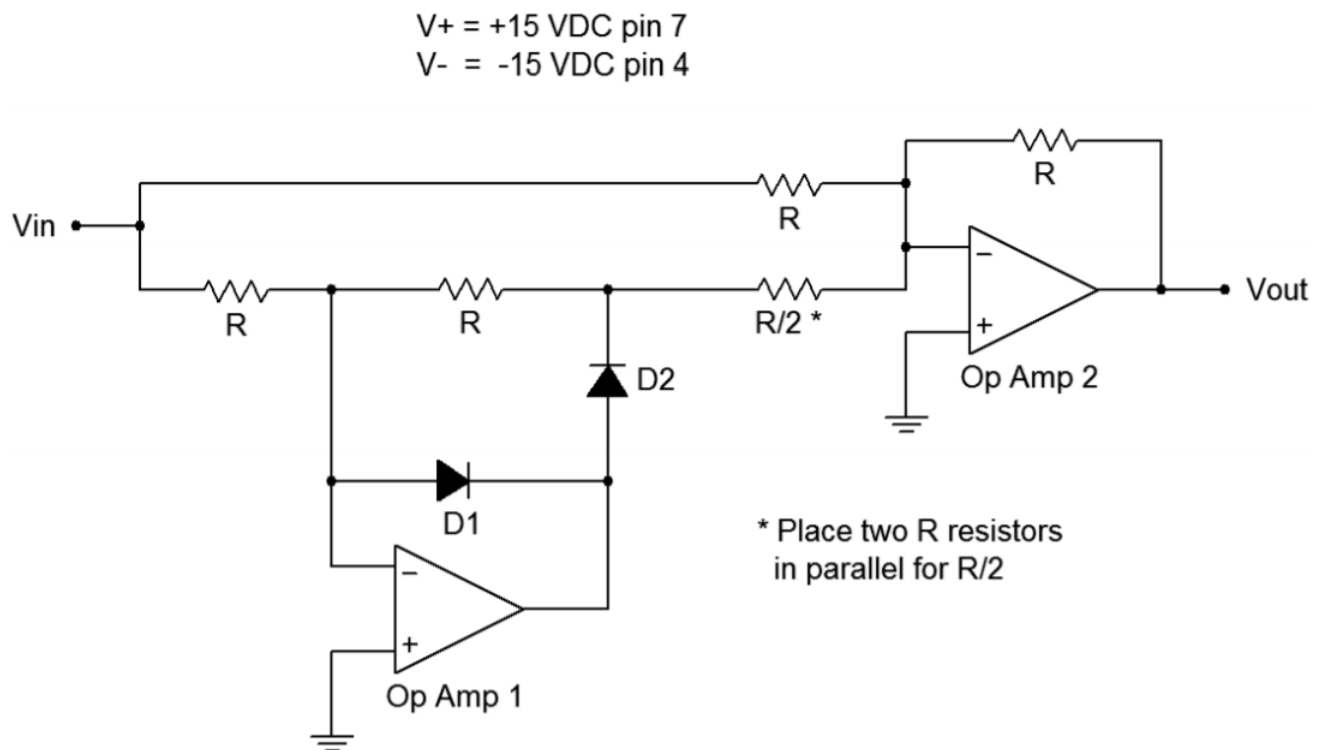

Figure 13.5.2
11. Decide on a value for R in Figure 13.5.2 and assemble it. The actual value of R is not critical. The important thing is that the resistors should be close in value, preferably within a few percent of each other.
18. Continuing with the circuit of Figure 13.5.2, estimate and then measure the results for each individual error presented in Table 13.7.1.
5. What is the effect of flipping the diodes in Figure 13.5.2?
6. Briefly describe what each half of Figure 13.5.2 is doing.
7. What would be the effect of doubling R_f of the second op amp of Figure 13.5.2?